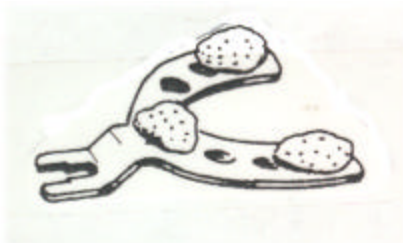

Fig. 1
2. Apply it to three points of the bitefork (Fig. 1). In case of missing teeth, add build-up in wax or bite compound for support.